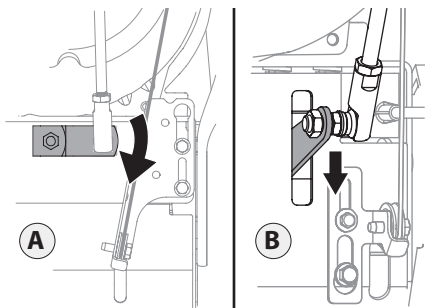

Figure 2-60
3. Make sure the shift lever on the back of the transmission is rotated downward to the full extent of its rotation. See Figure 2-60, Detail "A" for models without hydro transmission or Detail "B" for models with hydro transmission.